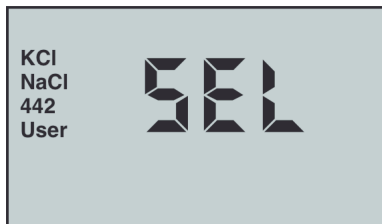

Figure 1
2. Press and hold  key for 3 seconds to make "SEL" appear (see Figure 1). For demonstration purposes, all 4 solution types are shown simultaneously.